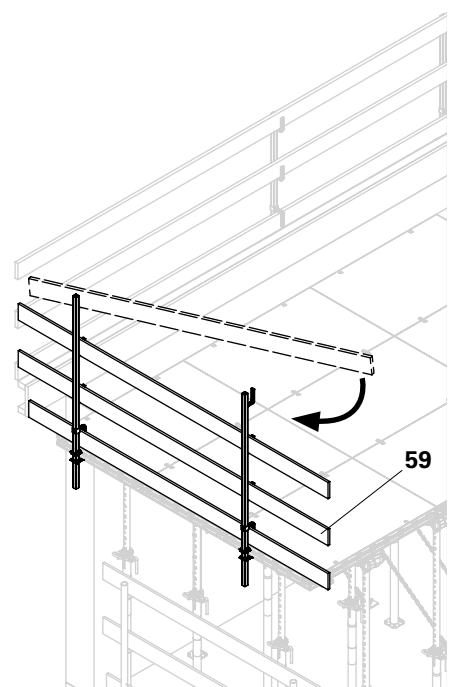

Fig. D4.05
2. Insert the guardrail boards (59) and secure with nails. (Fig. D4.05)